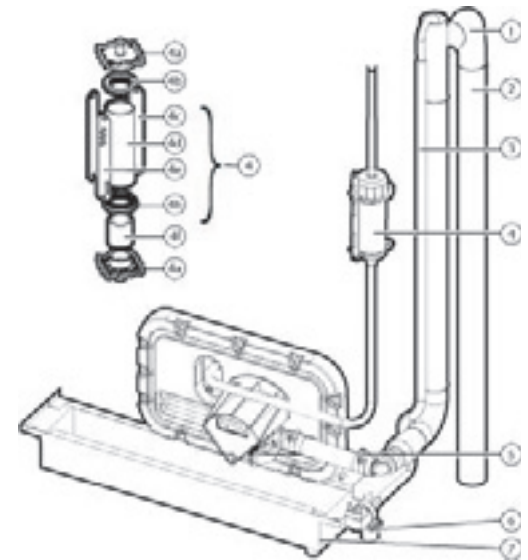

Fig. 17.e
- Fill electrovalve** (Fig. 17.d, part. no. 3 - Fig. 17.e, part. no. 6)
- Supply and drain manifold** (Fig. 17.d, part. no. 6)
- Drain electrovalve / drain pump** (Fig. 17.d, part. no. 5 - Fig. 17.e, part. no.5)
- Fill tank** (Fig. 17.d, part. no. 1)
- Supply, fill, overflow pipe** (Fig. 17.a, part. no.2-8 - Fig. 17.e, part. no. 3-1)